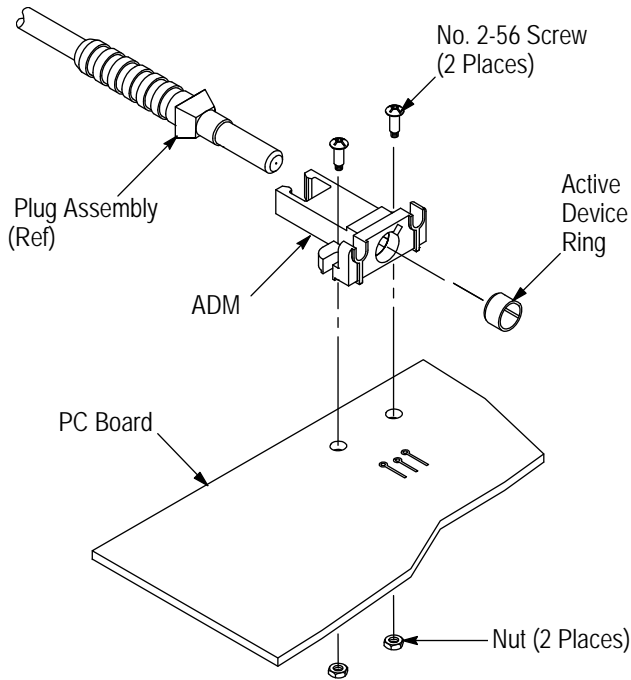

Figure 3
2. Slip the active device ring around the active device, and insert it into the rear of the ADM. Make sure that the tab on the device is in the slot of the ADM. See Figure 3.
4. Secure the ADM to the pc board using two No. 2-56 screws and nuts (customer supplied). The ADM is typically mounted horizontally (as shown in Figure 3) or vertically.